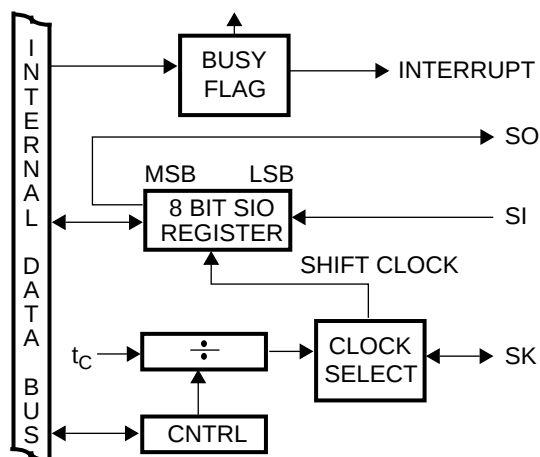

Figure 14. MICROWIRE/PLUS Block Diagram
MICROWIRE/PLUS is a serial synchronous communications interface. The MICROWIRE/PLUS capability enables the device to interface with any of National Semiconductor's MICROWIRE peripherals (i.e. A/D converters, display drivers, E2PROMs etc.) and with other microcontrollers which support the MICROWIRE interface. It consists of an 8-bit serial shift register (SIO) with serial data input (SI), serial data output (SO) and serial shift clock (SK). Figure 14 shows a block diagram of the MICROWIRE/PLUS logic.